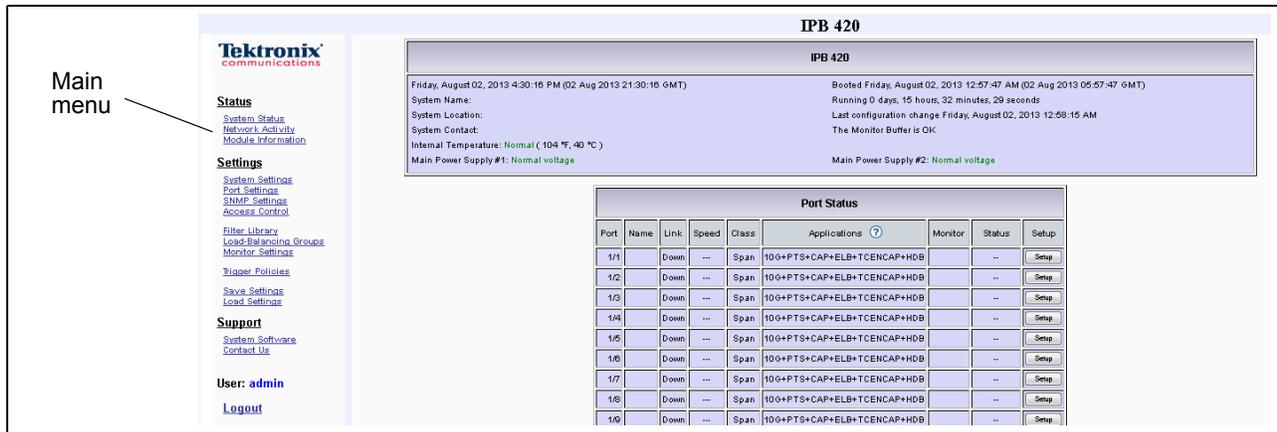

Figure 3.5 - IPB System Software Main Menu
5. Log in using the user ID and password provided by Tektronix Communications. The main page appears (Figure 3.5).